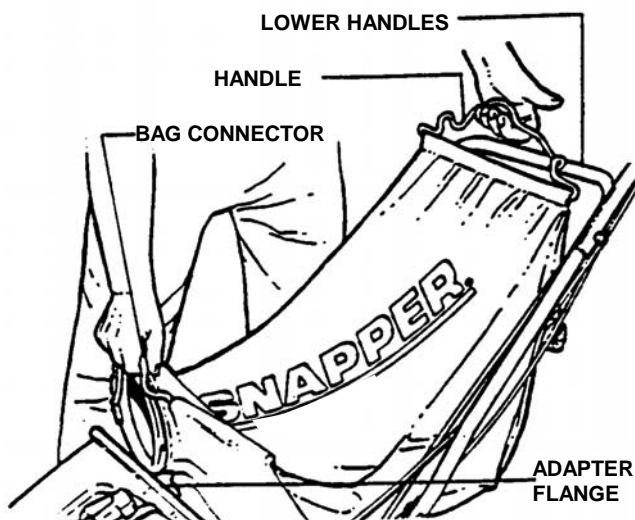
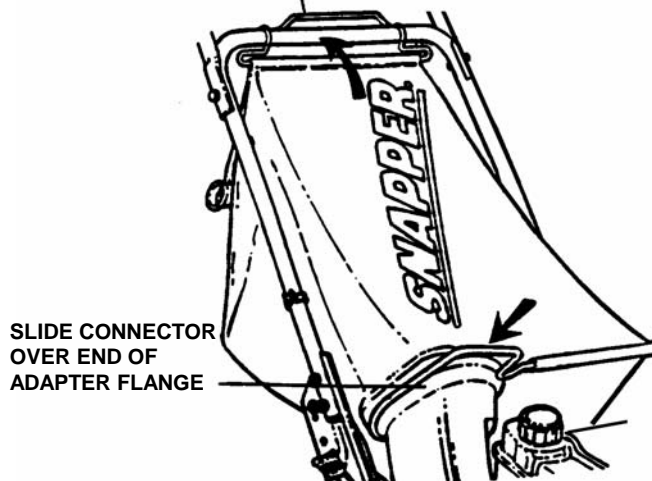

FIGURE 2.12
FIGURE 2.13
B. Position grass bag between handles. See Figure 2.12. Install grass bag by sliding connector over flange of adapter. Attach grass bag hooks over middle handle cross bar. See Figure 2.13.